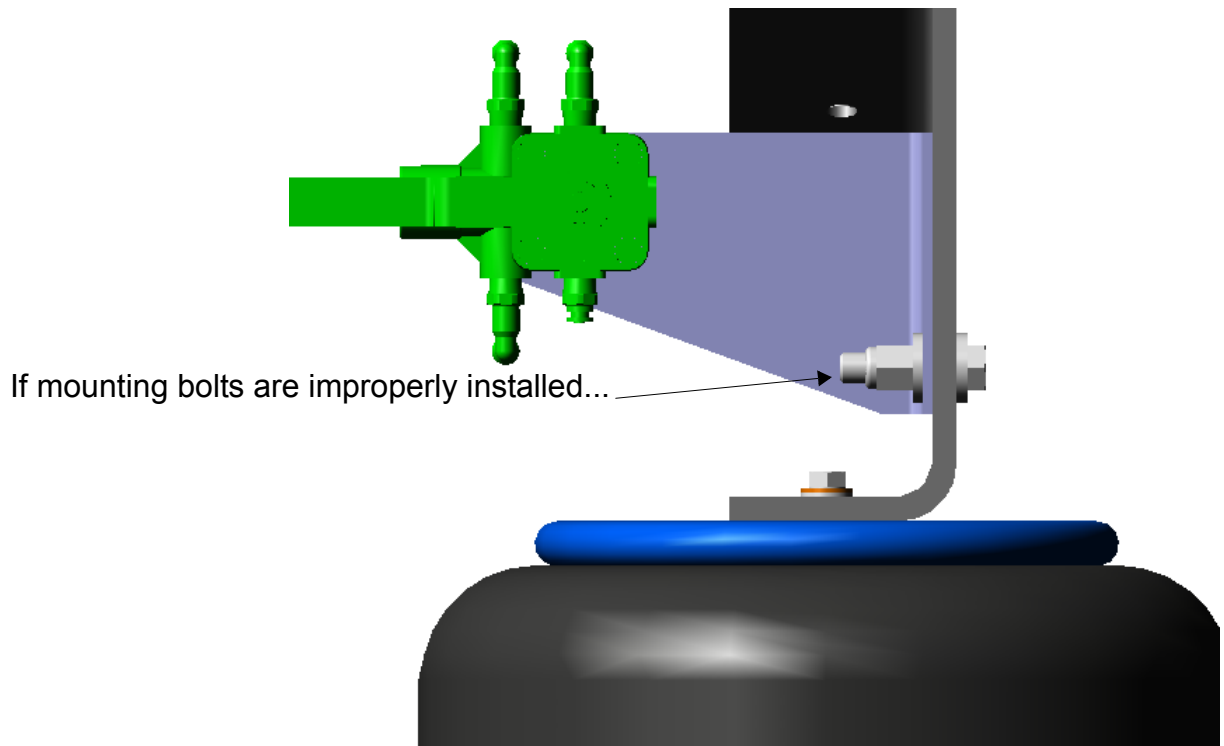
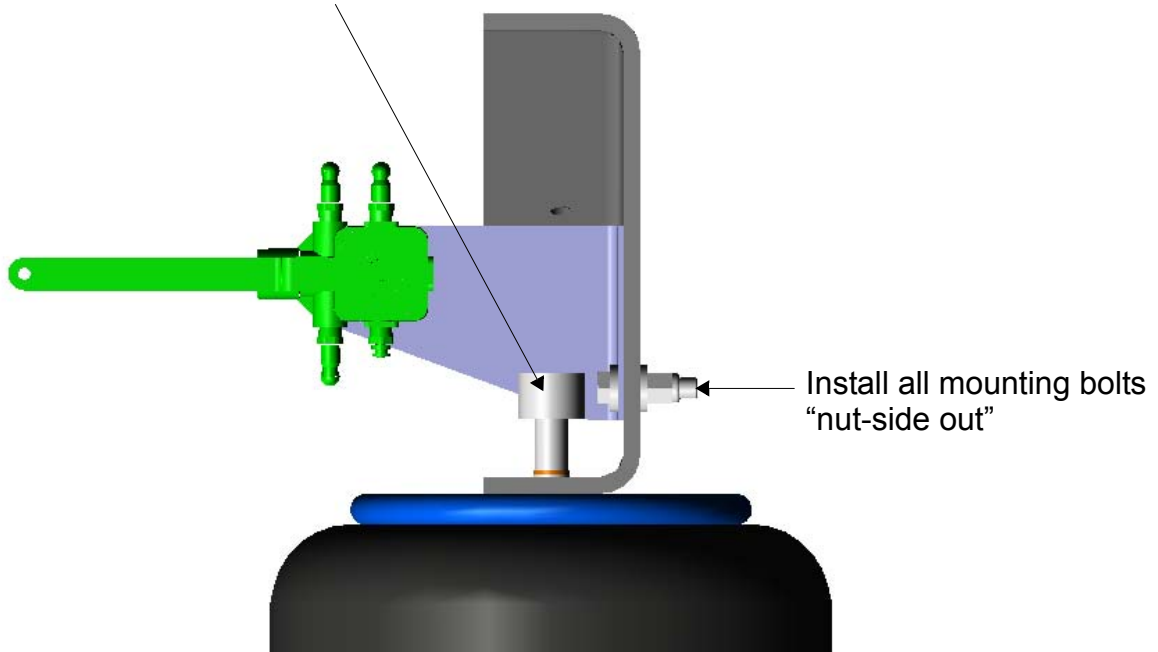

Figure 3 Improper Installation of HCV Bracket Mounting Bolts (“Head-Side Out”)
Figure 4 Proper Installation of HCV Bracket Mounting Bolts (“Nut-Side Out”)
- Figure 3 and Figure 4 illustrate the reversing of the orientation of the HCV bracket mounting bolts. Bolts are now installed “nut-side out” to prevent interference between the bolt and an air bag installation tool (90-degree air ratchet).